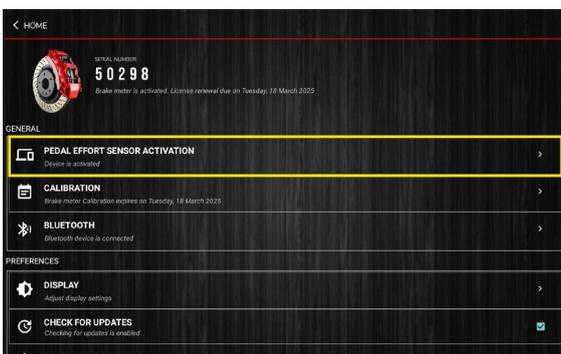

Figure 46
The "Pedal Effort Sensor Activation" entry in the settings is used to activate Pedal Effort Sensor before using them with the Workshop Pro 10. This will need to be done once. (Figure 46)
2. Select the Pedal Effort Sensor to activate as below. (Figure 46)